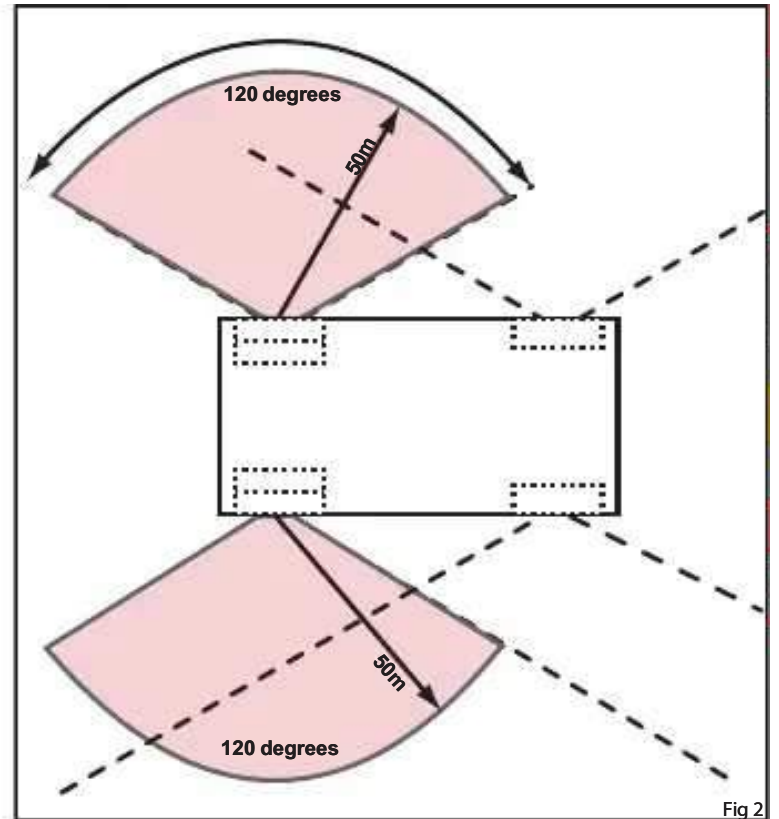

Fig 2
- Carefully drive the truck with the wheel (4) to the wheel hub and align it.
- Slide the wheel (4) over the wheel hub.
- Remove the wheel retainer on the holder (3).
- Align the wheel (4) on the hub.
- Ensure the trajectory zone is kept clear refer to Fig.2.